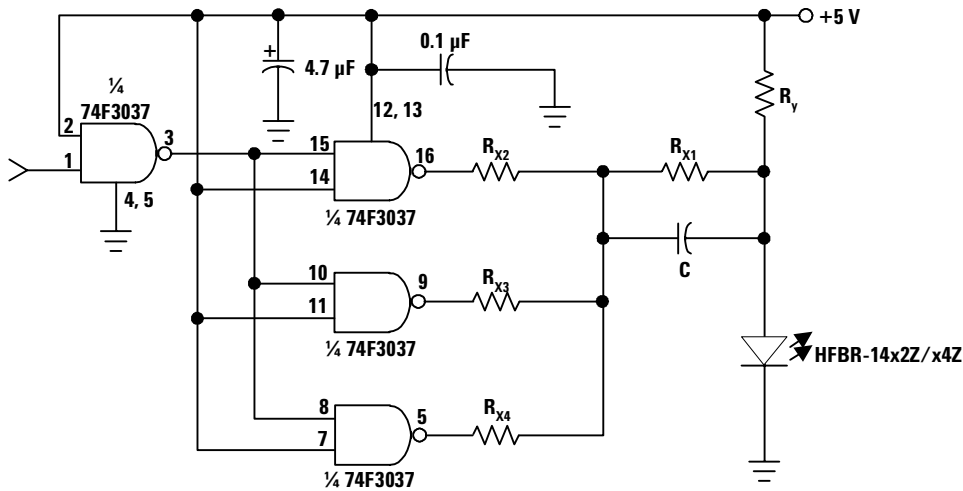

Figure 11. Recommended Drive Circuit.
- Pre-bias is recommended if signal rate >10 MBd, see recommended drive circuit in Figure 11.
The circuit used to supply current to the LED transmitter can significantly influence the optical switching characteristics of the LED. The optical rise/fall times and propagation delays can be improved by using the appropriate circuit techniques. The LED drive circuit shown in Figure 11 uses frequency compensation to reduce the typical rise/fall times of the LED and a small pre-bias voltage to minimize propagation delay differences that cause pulse-width distortion. The circuit will typically produce rise/fall